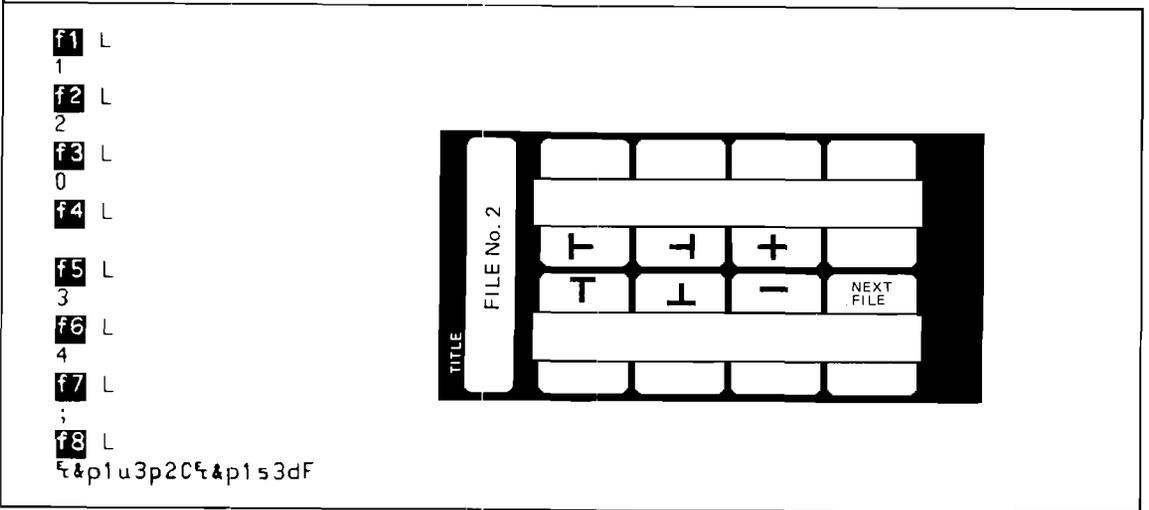

Figure A-2. Soft Key Programming and Soft Key Overlay For File 2
- STEP 5. Using figure A-2 as a guide, program each key, and mark a soft key overlay as shown.